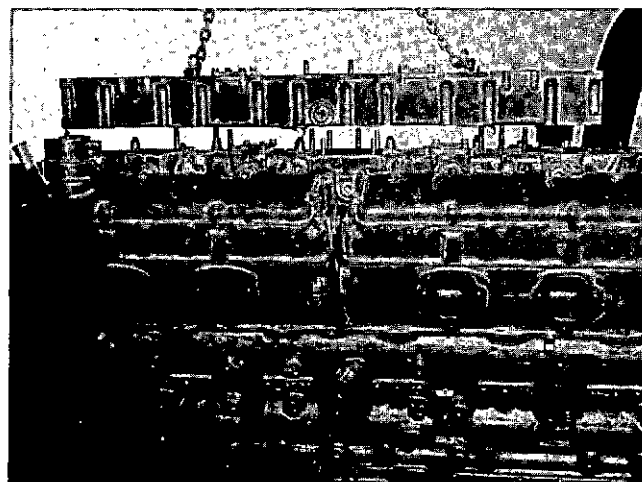

Fig. 0-21, V40054. Removing exhaust manifold
3. Using a chain hoist, carefully lift exhaust manifolds from engine to keep from bending studs. Fig. 0-21.